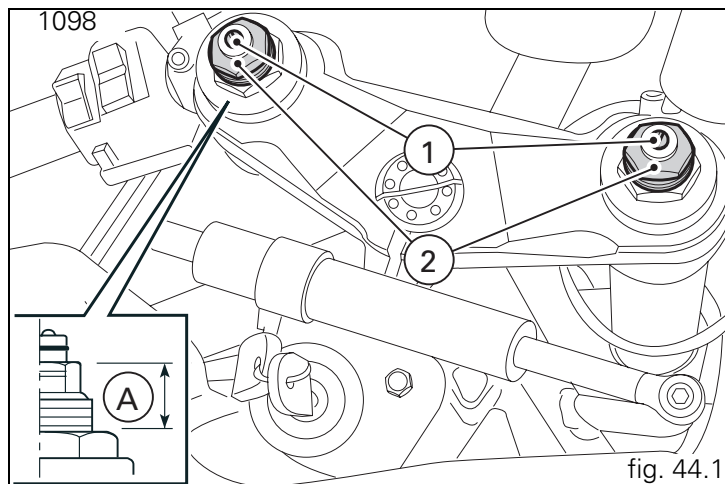
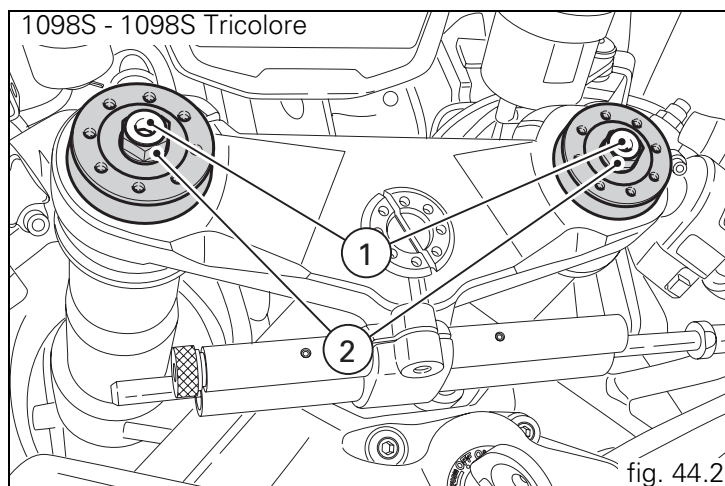

fig. 44.1
fig. 44.2
- 1) to adjust rebound damping (fig. 44.1 and fig. 44.2);
- 2) to adjust inner spring preload (fig. 44.1 and fig. 44.2);
Spring preload (1098)(A, fig. 44.1): 18 mm;
To change the preload on the inner spring for each fork leg, turn the adjuster with the hex end (2, fig. 44.1 and fig. 44.2) with a 22 mm hex wrench.